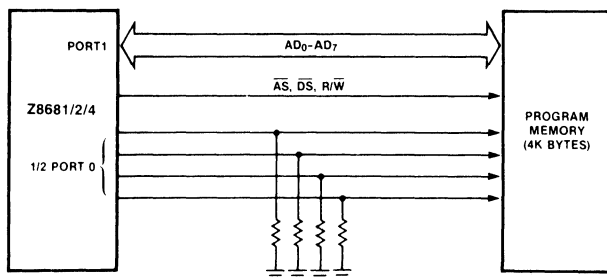

Figure 10. Port 0 Address Lines Tied to Logic 0
Such an initialization routine must reside within the first 256 bytes of executable code and must be physically mapped into memory by forcing the Port 0 address lines to a known state. See Figure 10. The proper Port initialization sequence is:
*Example.* In Figure 10, the initialization routine is mapped to the first 256 bytes of program memory. Pull-down resistors maintain the address lines at a logic 0 level when these lines are floating. The leakage current caused by fanout must be taken into consideration when selecting the value of the pull-down resistors. The resistor value must be large enough to allow the Port 0 output driver to pull the line to a logic one.